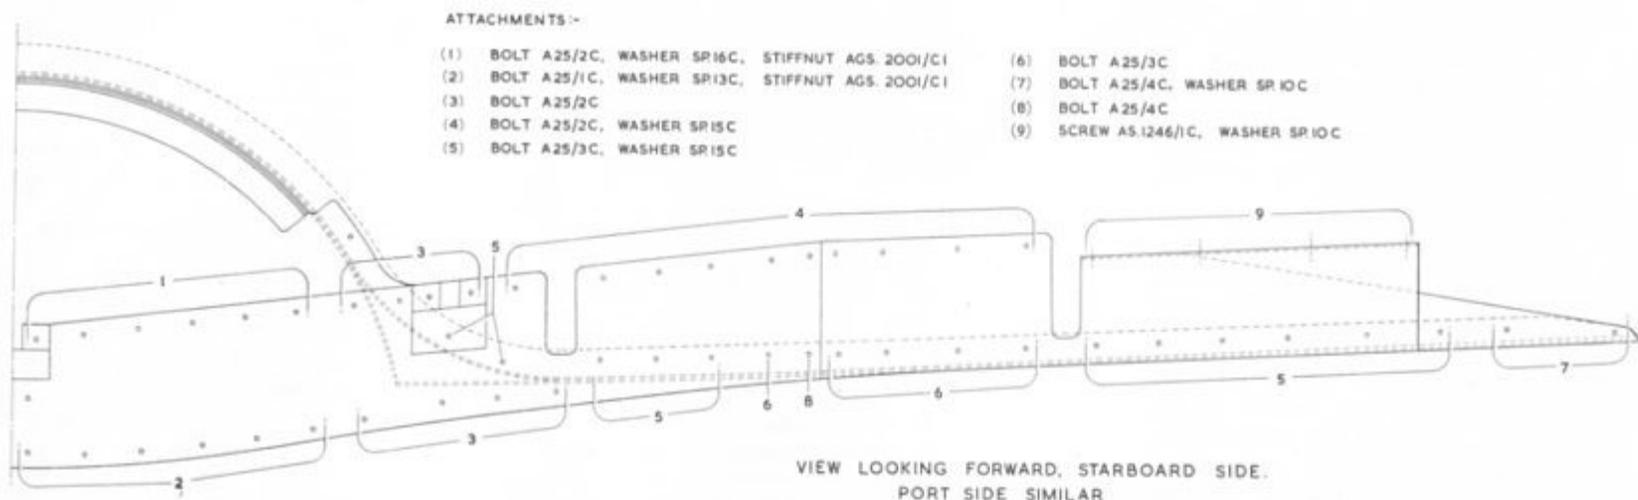

Fig.1. Seal structure to front spar attachments
- (1) Remove the nine blanking screws from the centre section arch at the front spar position.
- (2) Position the centre sealing structure to the front spar and secure, using bolts A25/2C, nine at the top attachment and one at each side attachment, to the spar web.
- (3) Secure the structure to the forward fairing and the spar web, using the bolts and stiffnuts at the positions shown in fig.1.
- (4) Fit the angle brackets 245 and 246/F9844, port and starboard respectively using two bolts A25/1C and washers SP.10C at each attachment.
- (5) Secure the port and starboard sections of structure, using the bolts and screws at the positions shown on fig.1.
- (6) Fit the port and starboard outboard cover plates to the structure and secure the seven Dzus fasteners and the two screws AS.1242/1C at each attachment.
- (7) Position the port and starboard inboard cover plates on the structure. Position the inflatable seal on the cover plates to enter the three air connectors through the holes in the inboard cover plates. Connect the seal to the hoses at the ends of the air supply pipes.
- (8) Fit the distance pieces in the lower attachment holes in the seal, fit the three retaining strips and secure the lower edge of the seal using screws AS.1248/6B and washers SP.10B.
- (9) Position the port and starboard removable members between the inboard cover plates and the structure, and secure to the spar web using bolts A25/2C and washers SP.15C.
- (10) Secure the centre removable member to the centre structure plate using two bolts A25/3C, washers SP.15C and stiffnuts AGS.2001/C1.
- (11) Secure the inboard cover plates by engaging the Dzus fasteners and fitting the four screws AS.1248/1C